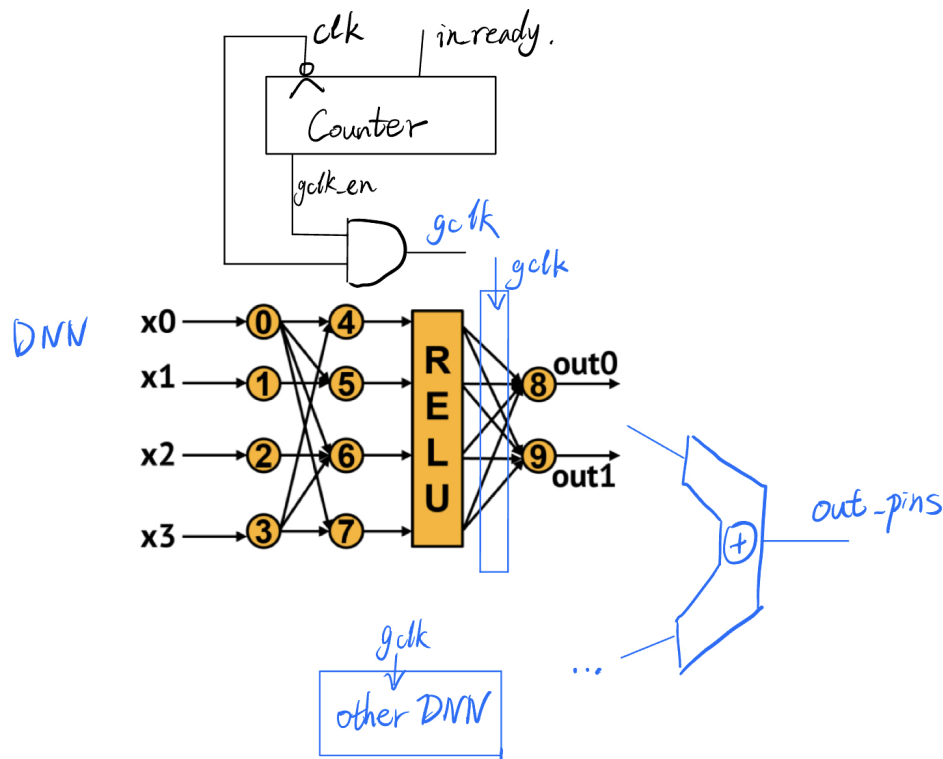

Figure 1. Simplified design architecture
The updated simplified design architecture is shown in Figure 1:
From Figure 1, we can see that only one stage of flip flops are inserted in the design which locates at deeper location so that it can effectively decrease critical path and latency cycle. Thus from the outcome table we can see that the latency is decreased from 2.74 to 1.38, meanwhile the frequency doesn't change too much. However, the configuration for APR is different so it may have some cost in area. However, less registers requirements also decrease the area. So the area is decreased from 0.00197 to 0.00193.
From Figure 1, we can see that the gated clock is inserted in the design in order to decrease power. However, to implement the gated clk is not simply adding some logic. One tricky part is in the further Synthesis and APR.
2. To avoid contention, from the figure 1 we can see that I generated the gclk\_en by clk\_nedge. Otherwise it will encounter hold time violation.